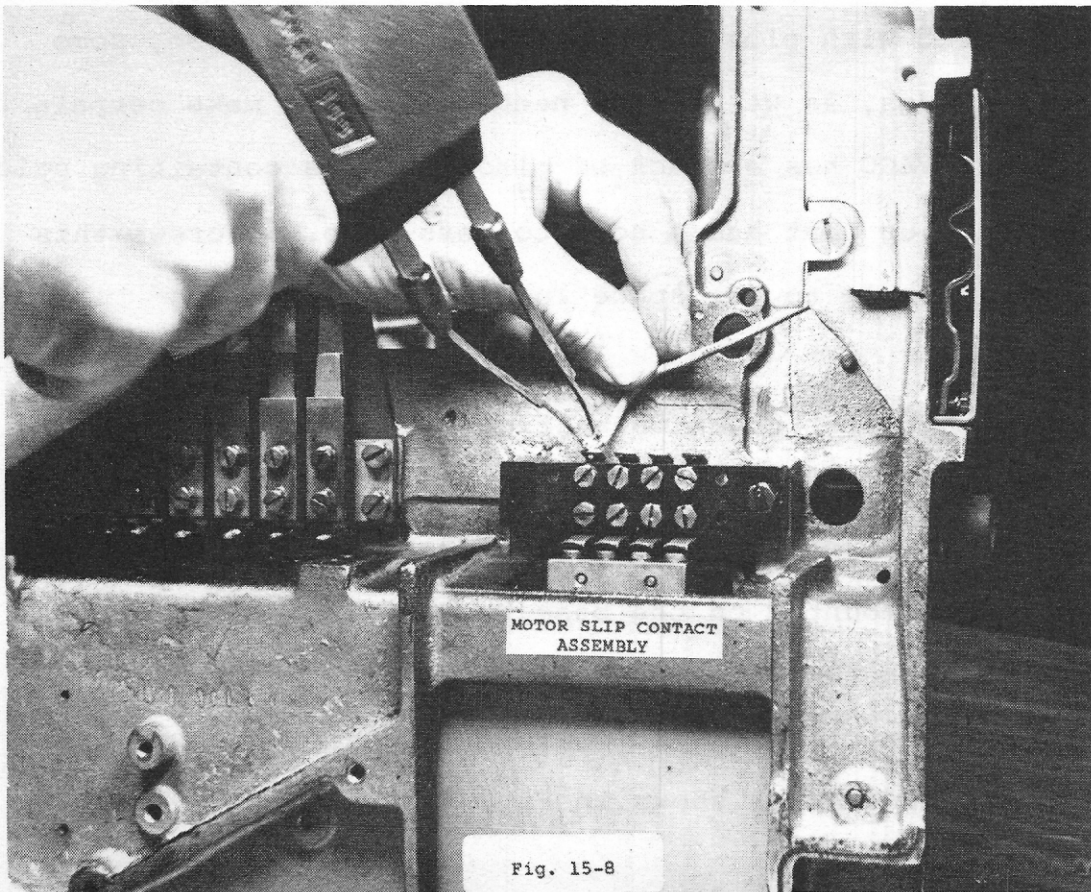

Fig. 15-8
- a) Take a length of plastic-insulated wire and solder one end on Pin 23 on the terminal strip (which, by this time, has been remounted on the base). Fig. 15-13. Run this wire through the hole in the base and downward underside to the motor slip-contact assembly. Solder the wire to one slip contact as shown in Fig. 15-8.